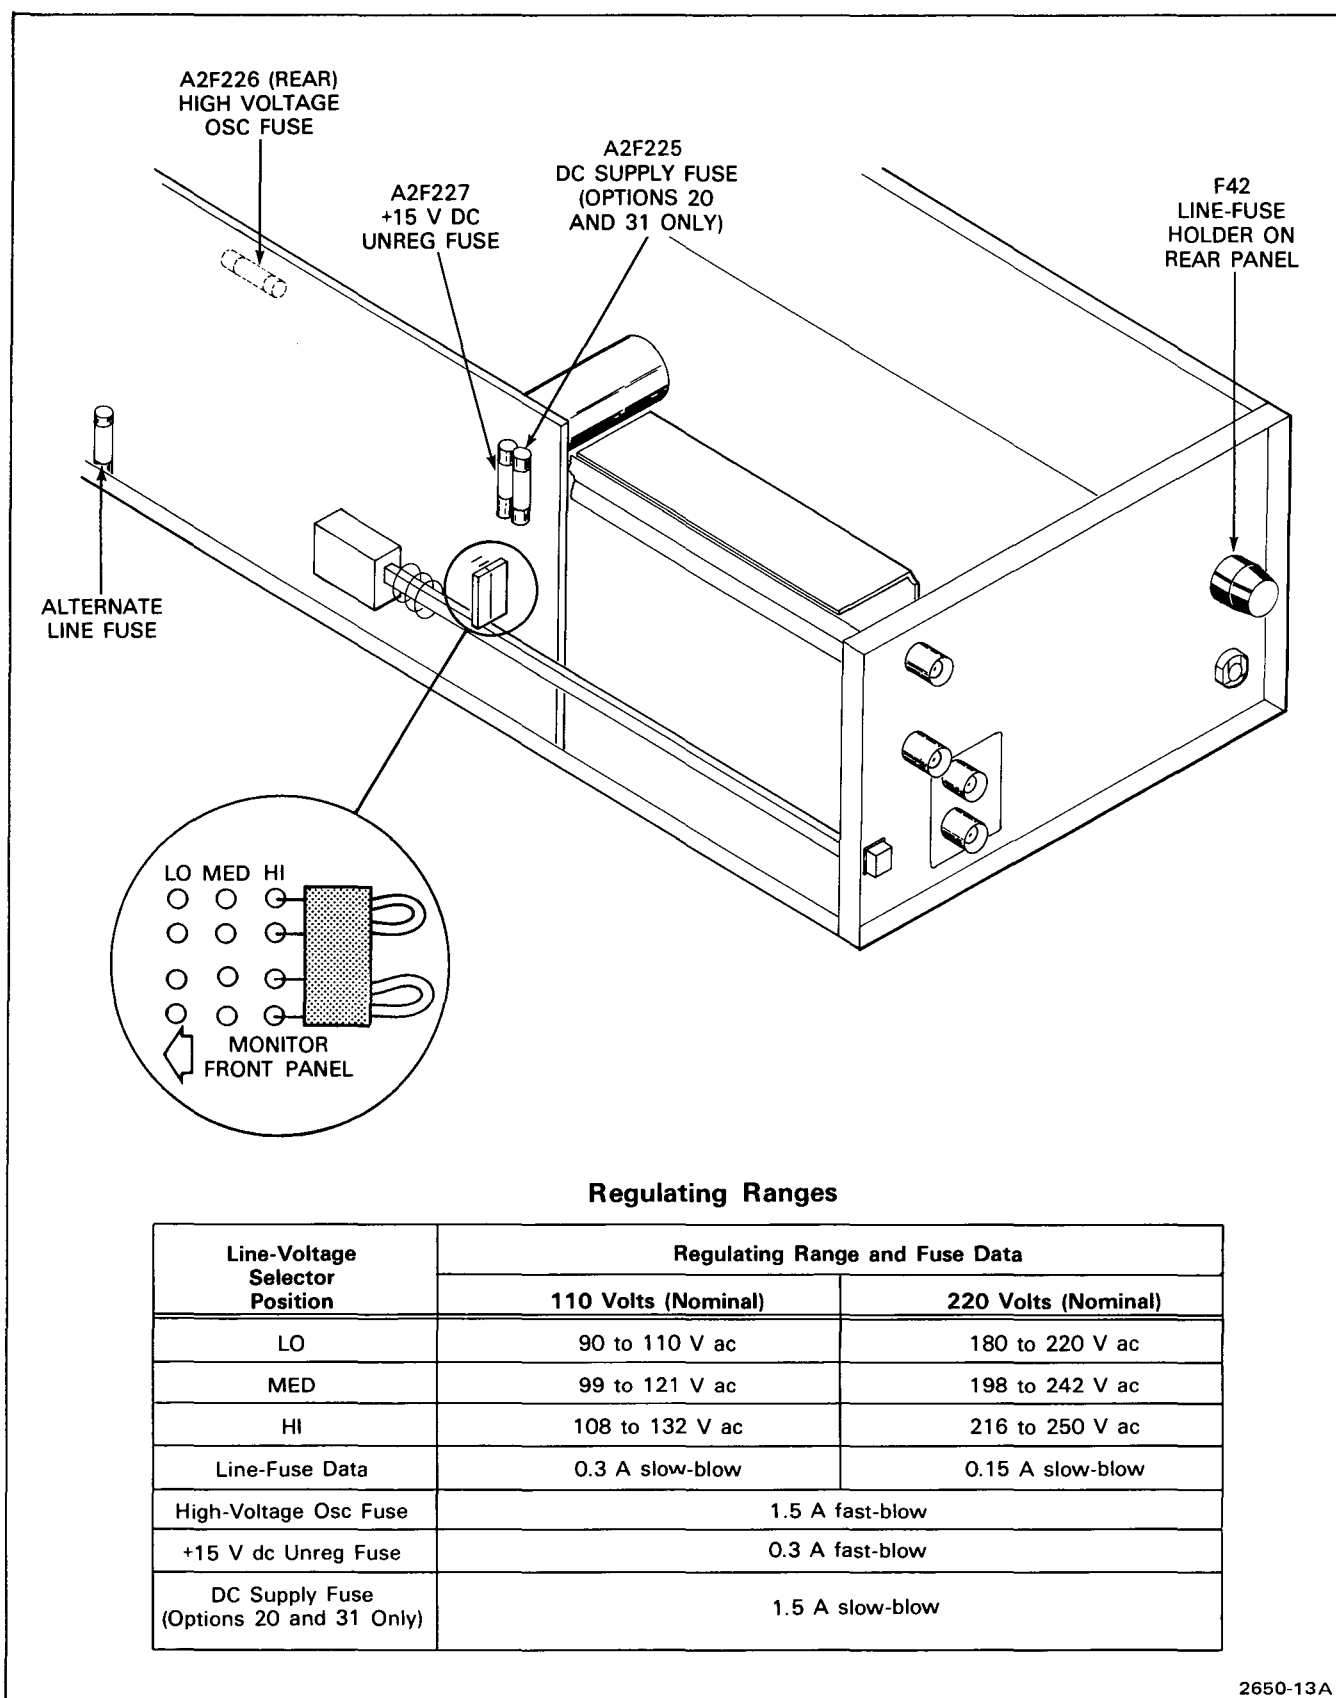

Figure 3-1. Location of line-voltage selector plugs, regulating-range pins, and fuses.
3. Insert the proper line-voltage selector plug (the brown plug for 120 volt operation or the red plug for 220 volt operation) on the line-voltage selector pins (located on the Power Supply board) labeled for the desired nominal line-voltage range. Refer to Figure 3-1 for location and additional information.
4. Remove the line fuse from the fuse holder and check for the correct rating. Replace it with one having the correct rating, if necessary. Refer to Figure 3-1 for fuse information and location.
An alternate line fuse, intended for the line-voltage source for which the Monitor was not set when shipped from the factory, is clipped to the Power Supply board (see Fig. 3-1).
Fuse protection is provided on the +20 V dc input line. See Figure 3-1 for location and rating of this fuse.